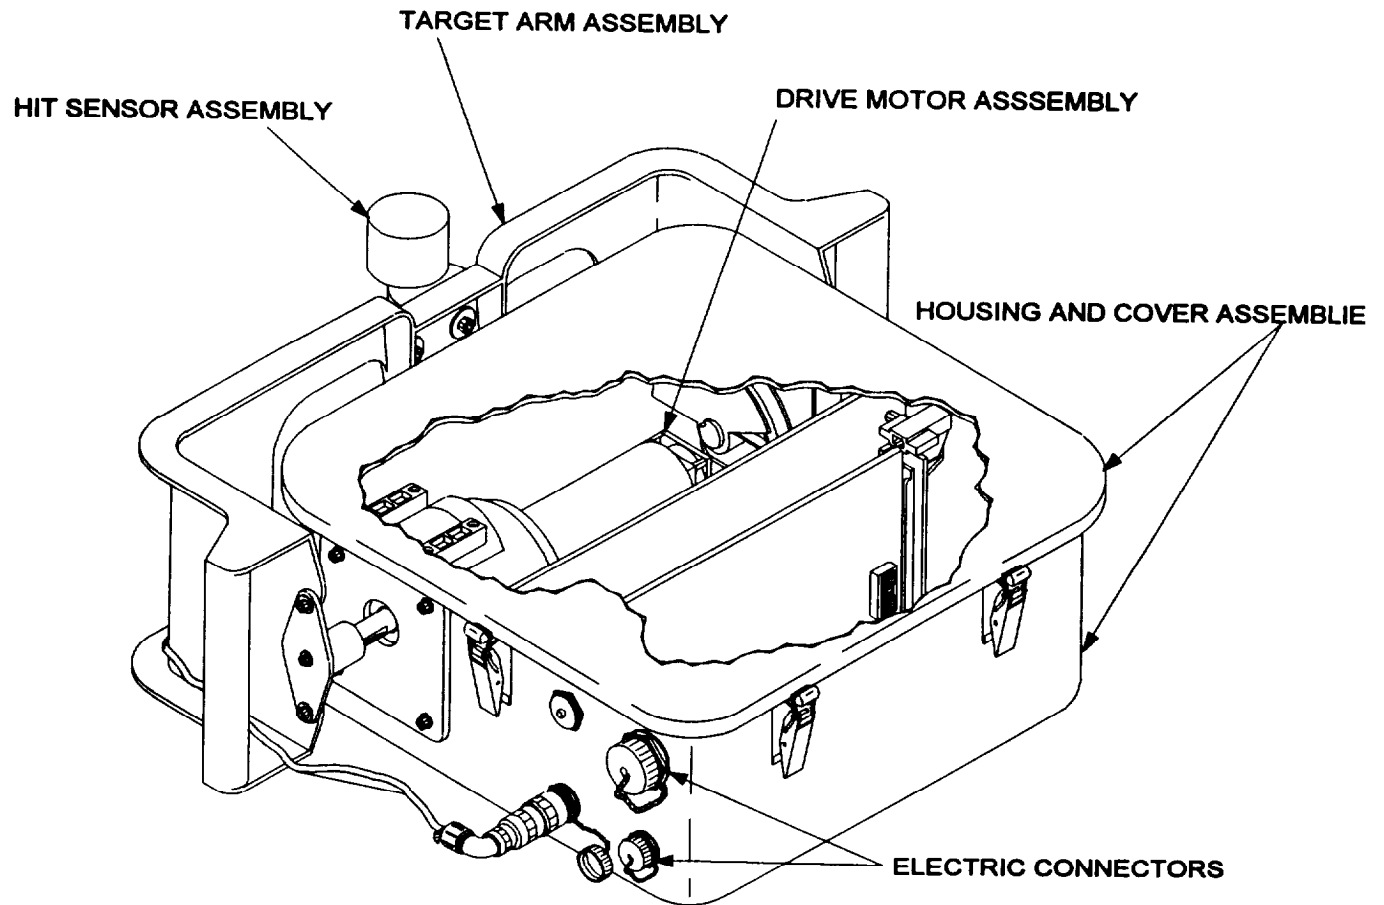

Figure 1-3. Major Components on the ITM.
b. Location and Description of Major Components on ITM. Refer to figure 1-3.